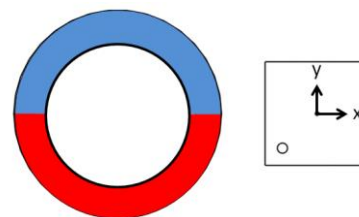

Figure 27: Package Top View with X- and Y-Axes
Next, plot the error curve (the output minus the real mechanical position vs. the real mechanical position) and extract two parameters: the maximum error (E), and the position of the maximum with respect to a zero crossing (a_M) (see Figure 27). The k ratio can be calculated with Equation (5):
The dot marked on the package indicates whether the radial field is aligned with the sensor coordinate X or Y (see Figure 27).
For example, Figure 27 on page 20 shows that the field along the sensor's Y direction is tangential and weaker. This means that the X-axis should be reduced (ETX = 1 and ETY = 0).